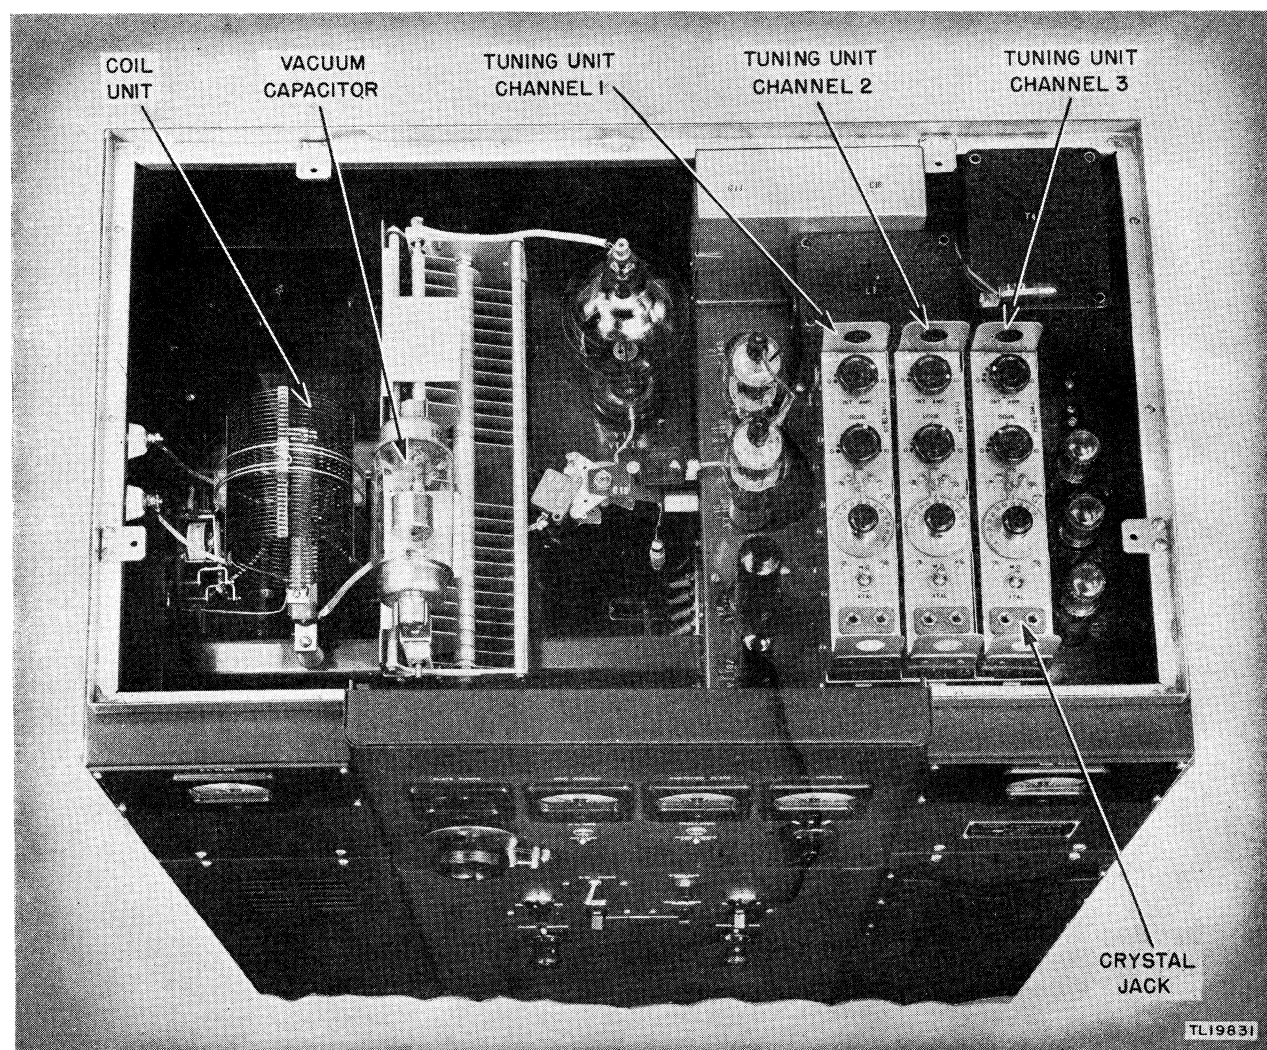

Figure 7. Radio Transmitter BC-610-A, -B, -C, and -D, top view, cover removed.
(2) *Tuning units (figs. 7, 8, and 9).* To remove, place fingers in the holes of side plate and pull out. If there is any difficulty, rock the tun-
(3) *Coil units (figs. 7, 8, and 9).* To remove, grasp the coil at ends of mounting strip, and pull up and out.
(4) *Crystals (figs. 7, 8, and 9).* To remove holder, grasp holder grip and lift out.
(2) Unscrew four wing bolts holding the cover down and lift straight up to remove. (See figs. 7 and 8.)